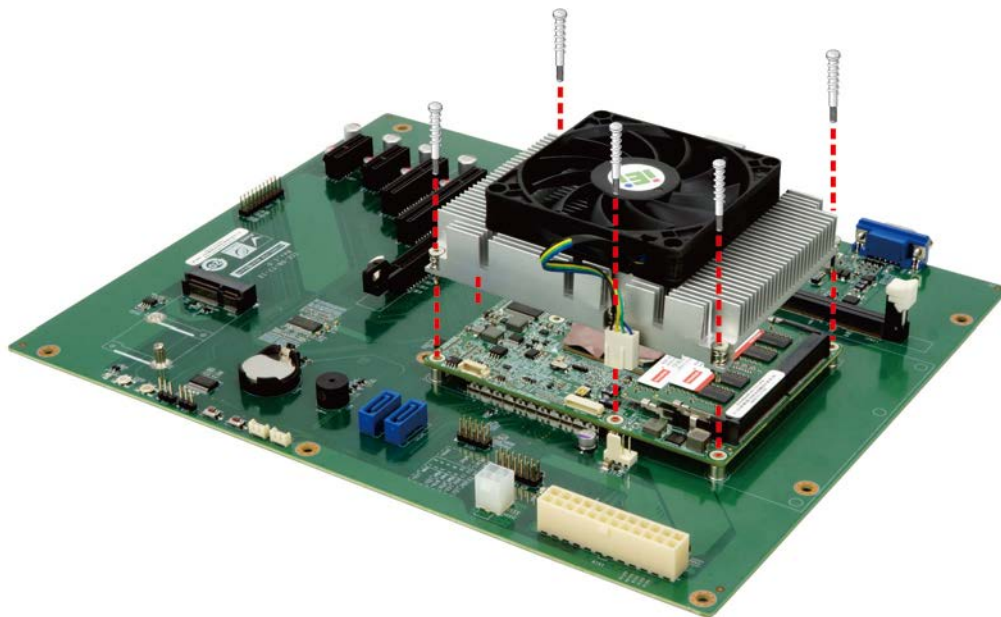

Figure 4-3: Secure the Heatsink
- Step 3:** Place the heatsink on the ICE-BDE-T7, aligning the retention screw holes (Figure 4-3).
- Step 4:** Secure the heatsink to the ICE-BDE-T7 and the baseboard with the supplied retention screws (Figure 4-3).